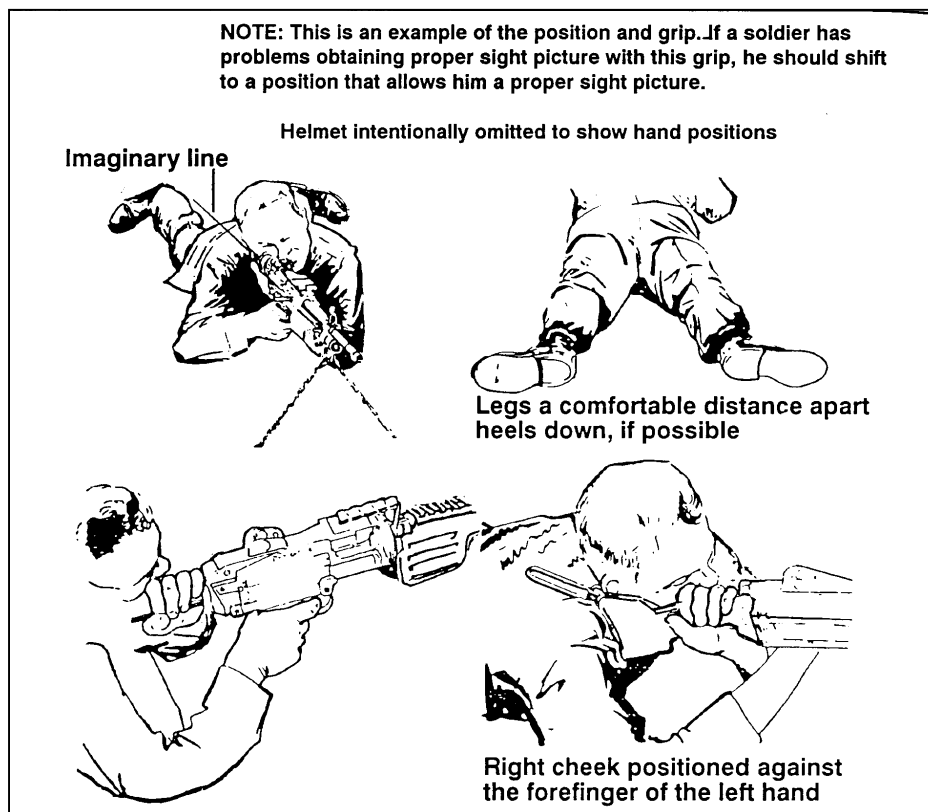

Figure 4-3. Prone position, bipod-supported.
(1) Assume a prone position to the rear of the weapon (place the shoulder rest on your firing shoulder for the M249 and M60 only). An imaginary line drawn through the weapon should bisect the firing shoulder and buttock, and continue through the heel of your foot.
(2) Spread your legs a comfortable distance apart with your heels as close to the ground as possible, yet comfortable.
(3) Grasp the pistol grip with your firing hand. Place the fleshy end of the index finger resting lightly on the trigger. Place your nonfiring hand on the small of the stock with your thumb is curled underneath. Then slide your nonfiring hand forward until your little finger touches the receiver, so your aiming point will always be the same.
(4) Place your cheek against the forefinger of your nonfiring hand to form a stock weld. Try to position your nonfiring hand and cheek at the same spot on the stock each time you fire the weapon. The stock weld should provide for a natural line of sight through the center of the rear sight aperture to the front sight post and to the target. Relax your neck so that your cheek rests on your forefinger naturally.
(5) Apply a firm, steady pressure rearward and down, holding the weapon tightly into the hollow of your shoulder while aiming and firing.
(6) Keep your shoulders level and elbows about an equal distance from the receiver of the weapon (Figure 4-3).